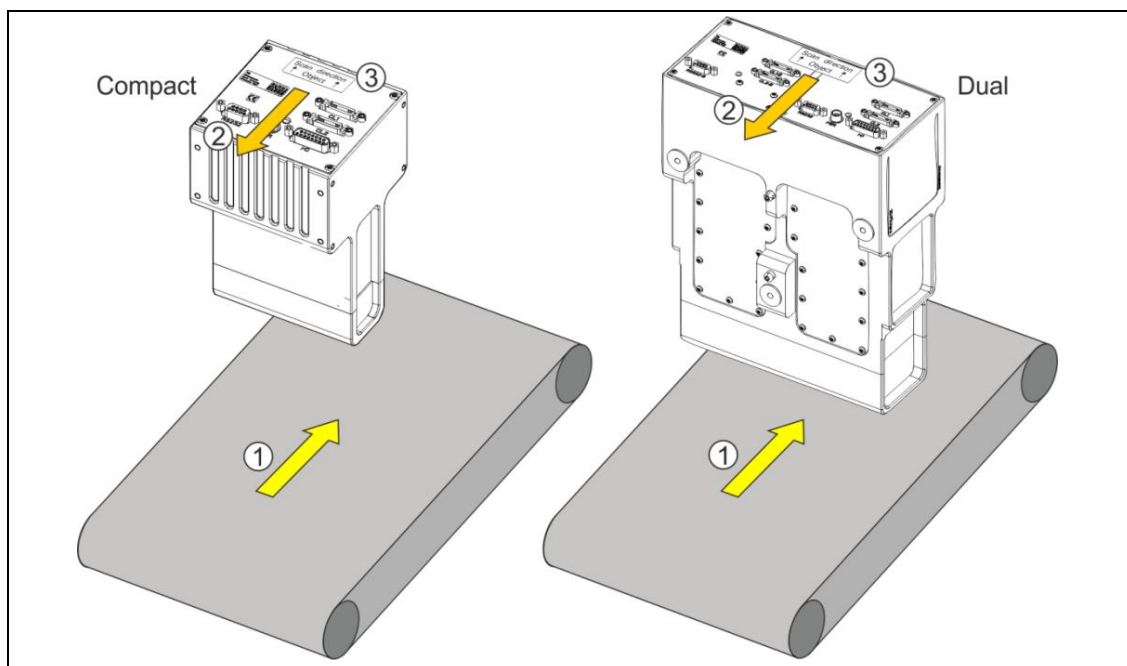

Fig. 19: Forward scan direction
- Depending on whether the target or the camera is moved for scanning, the forward scan direction is as shown in Fig. 19, p. 42.
- On the camera housing there is a marker (3) which indicates the forward direction over the movement of the object/target by means of an arrow.